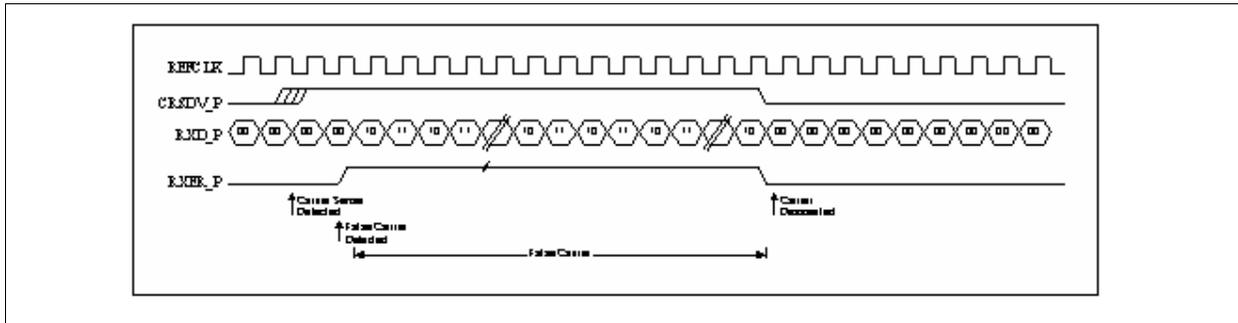

Figure 7 RMI Reception with False Carrier (100M Only)
Figure 7 shows the relationship among REFCLK, CRSDV and RXD[1:0] during a received false carrier event. CRSDV is asserted asynchronously to REFCLK as in the valid receive case shown in . However, once false carrier is detected, RXD[1:0] is changed to (10) (11) (Value 1110 in MII) and RXER is asserted. Both RXD[1:0] and RXER transition synchronously to REFCLK. After carrier sense is de-asserted, CRSDV is de-asserted synchronously to REFCLK.